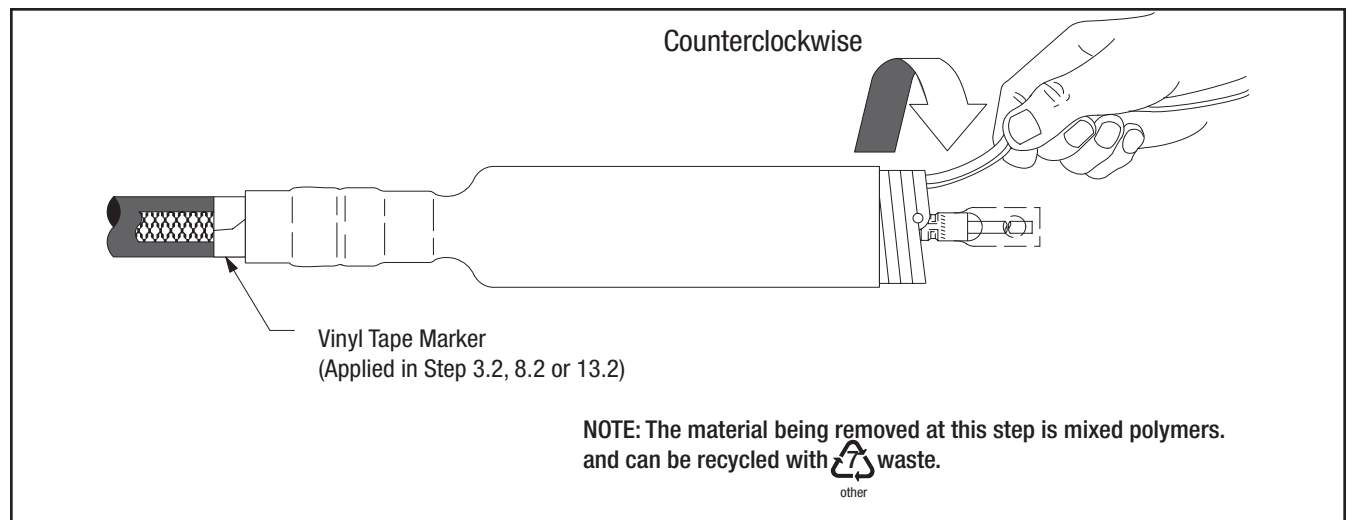

Figure 28
- 17.1 Slide the tubular termination body onto the cable and remove core. Make sure the termination body (not the core) is butted up to the edge of the vinyl tape marker previously applied (Figure 28). Pull the core while unwinding, counterclockwise, starting with the loose end (Figure 28). Be sure to alternate the pulling and unwinding actions (pull-unwind-pull-unwind-etc.) to help prevent the core material from binding up as the core is being removed. .